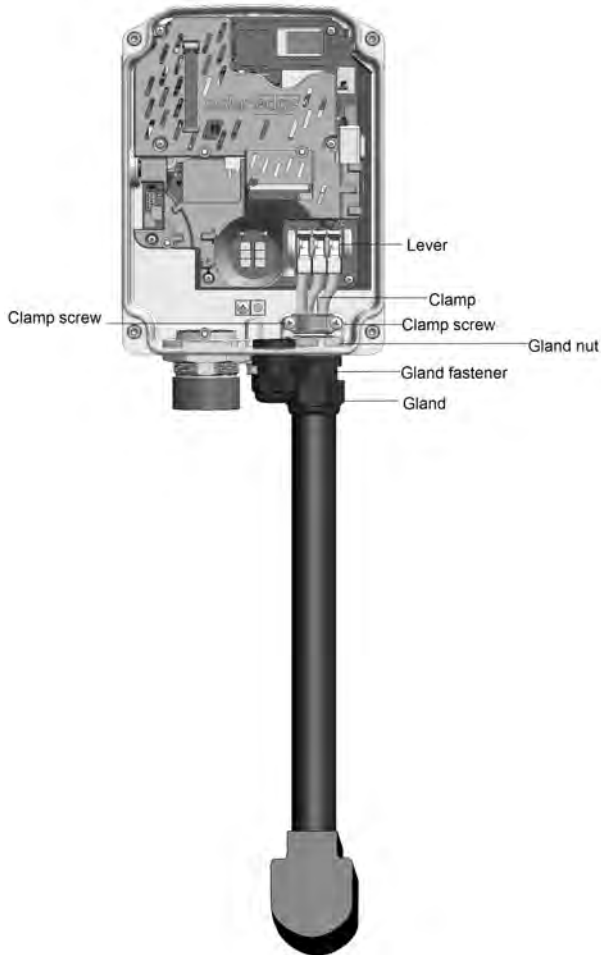

Figure 6: Inside the Smart EV Charger
2. Release the two clamping screws and remove the clamp. See *Figure 6*.
3. Push the terminal blocks levers up to release the G, L1 and L2 wires. See *Figure 6*
4. Release the gland nut. See *Figure 6*.
5. Pull out the AC Plug cable from the conduit entry. See *Figure 6*.